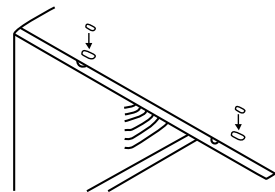

FIG. 6
9. Add two foam inserts to holes in top of cabinet where shipping screws were removed from. (See Fig. 6.)
1. Attach foam gasket to top angle above holes as shown in Fig. 6 on previous page.